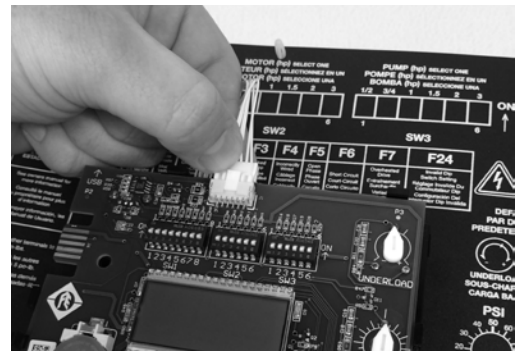

Figure 7A
9. Reconnect the wire harness on the display board. Slightly tug on the wire harness to make sure it is fully seated (Figures 7A and 7B).